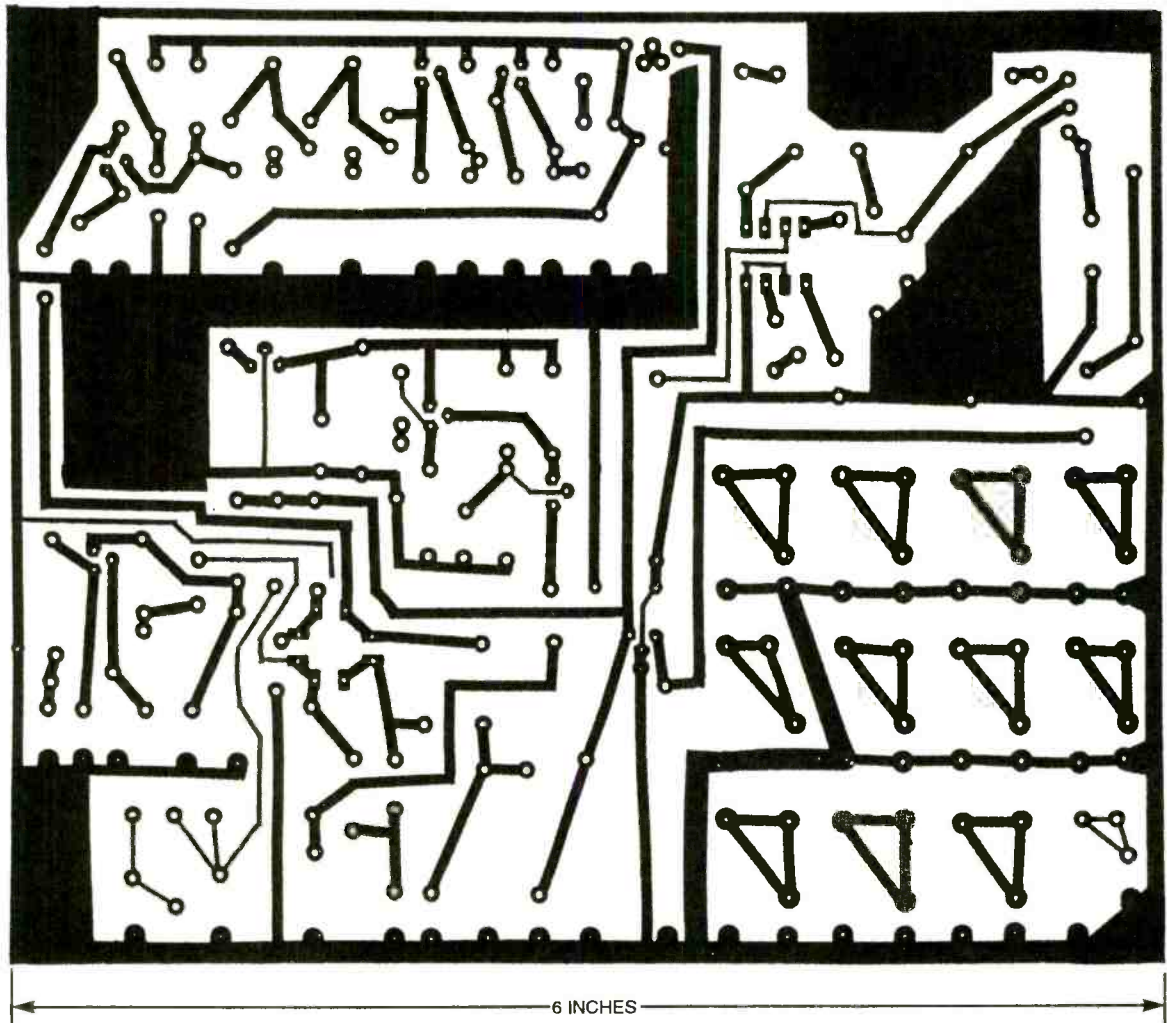

Fig. 4. This full-sized printed-circuit template can be used to etch your own board.
**Construction.** Except for the power supply, the controls, the connectors, and the internal speaker, the entire circuit was assembled a 5- x 6-inch, single-sided, printed-circuit board. A template for the printed-circuit layout is shown in Fig. 4. Once you have etched your board and obtained the parts listed in the Parts List, construction can begin.